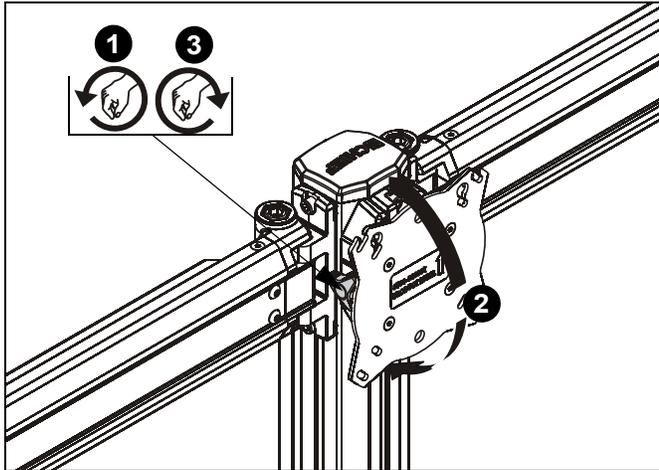

**Figure 28**
1. Loosen knob on top of faceplate assembly. (See Figure 28)
2. Adjust pitch, roll and/or yaw as desired. (See Figure 28)
3. Tighten knob to secure desired faceplate position. (See Figure 28)